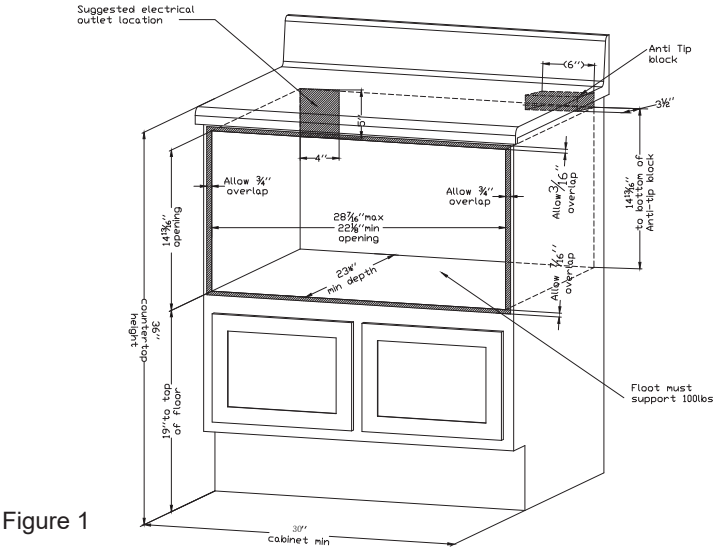

Figure 1
• Dimensions that are shown in Figure 1 must be used. Given dimensions provide minimum clearance. Locate electrical outlet in the shaded area in the upper left-hand corner of the cutout.
Figures 1 and 2 contain many Microwave Drawer measurements for reference when planning the drawer's location. This Microwave Drawer can be installed below any electric or gas wall oven. *Can also be installed using an electrical outlet in an adjacent cabinet within the area where tire provided electrical cord can reach. Power cord access hole in cabinet should be a minimum 1 1/2" diameter hole and debarred of all sharp edges.
To reduce the risk of tipping of the drawer, the Anti-Tip block must be properly installed located 14 inches above the floor on which the Microwave Drawer will sit. The 6-inch Anti-Tip block must be provided by the installer. See Figures 1 and 3. The Anti-Tip block prevents serious injury that might result from spilled hot liquids. If the Microwave Drawer is ever moved to a different location, the Anti-Tip block must also be moved and installed. When installed to the wall make sure that the screws completely penetrate the dry wall and are secured in wood or metal so that the block is totally stable. When fastening, be sure that the screws do not penetrate electrical wiring or plumbing. The electrical requirements are a 120 volt 60 Hz, AC only, 15 amp. or more protected electrical supply. It is recommended that a separate circuit serving only this appliance be provided.